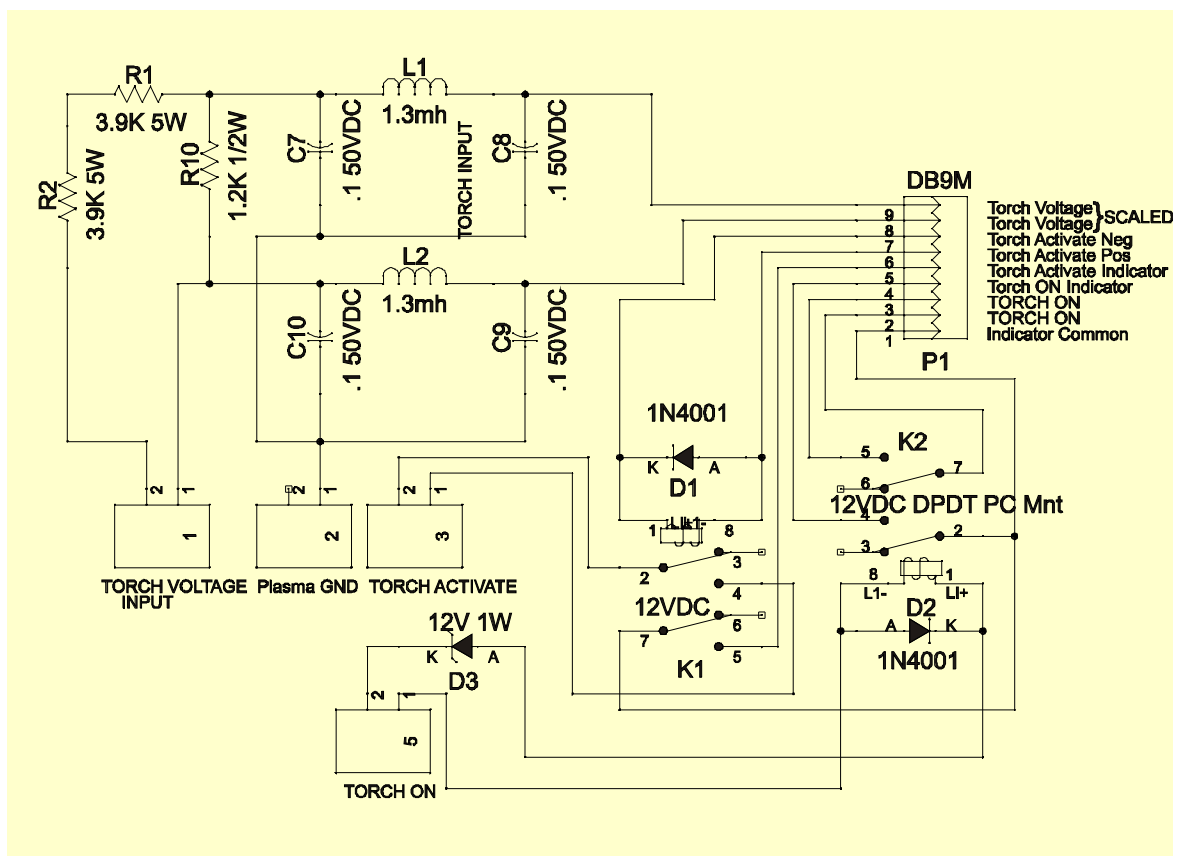
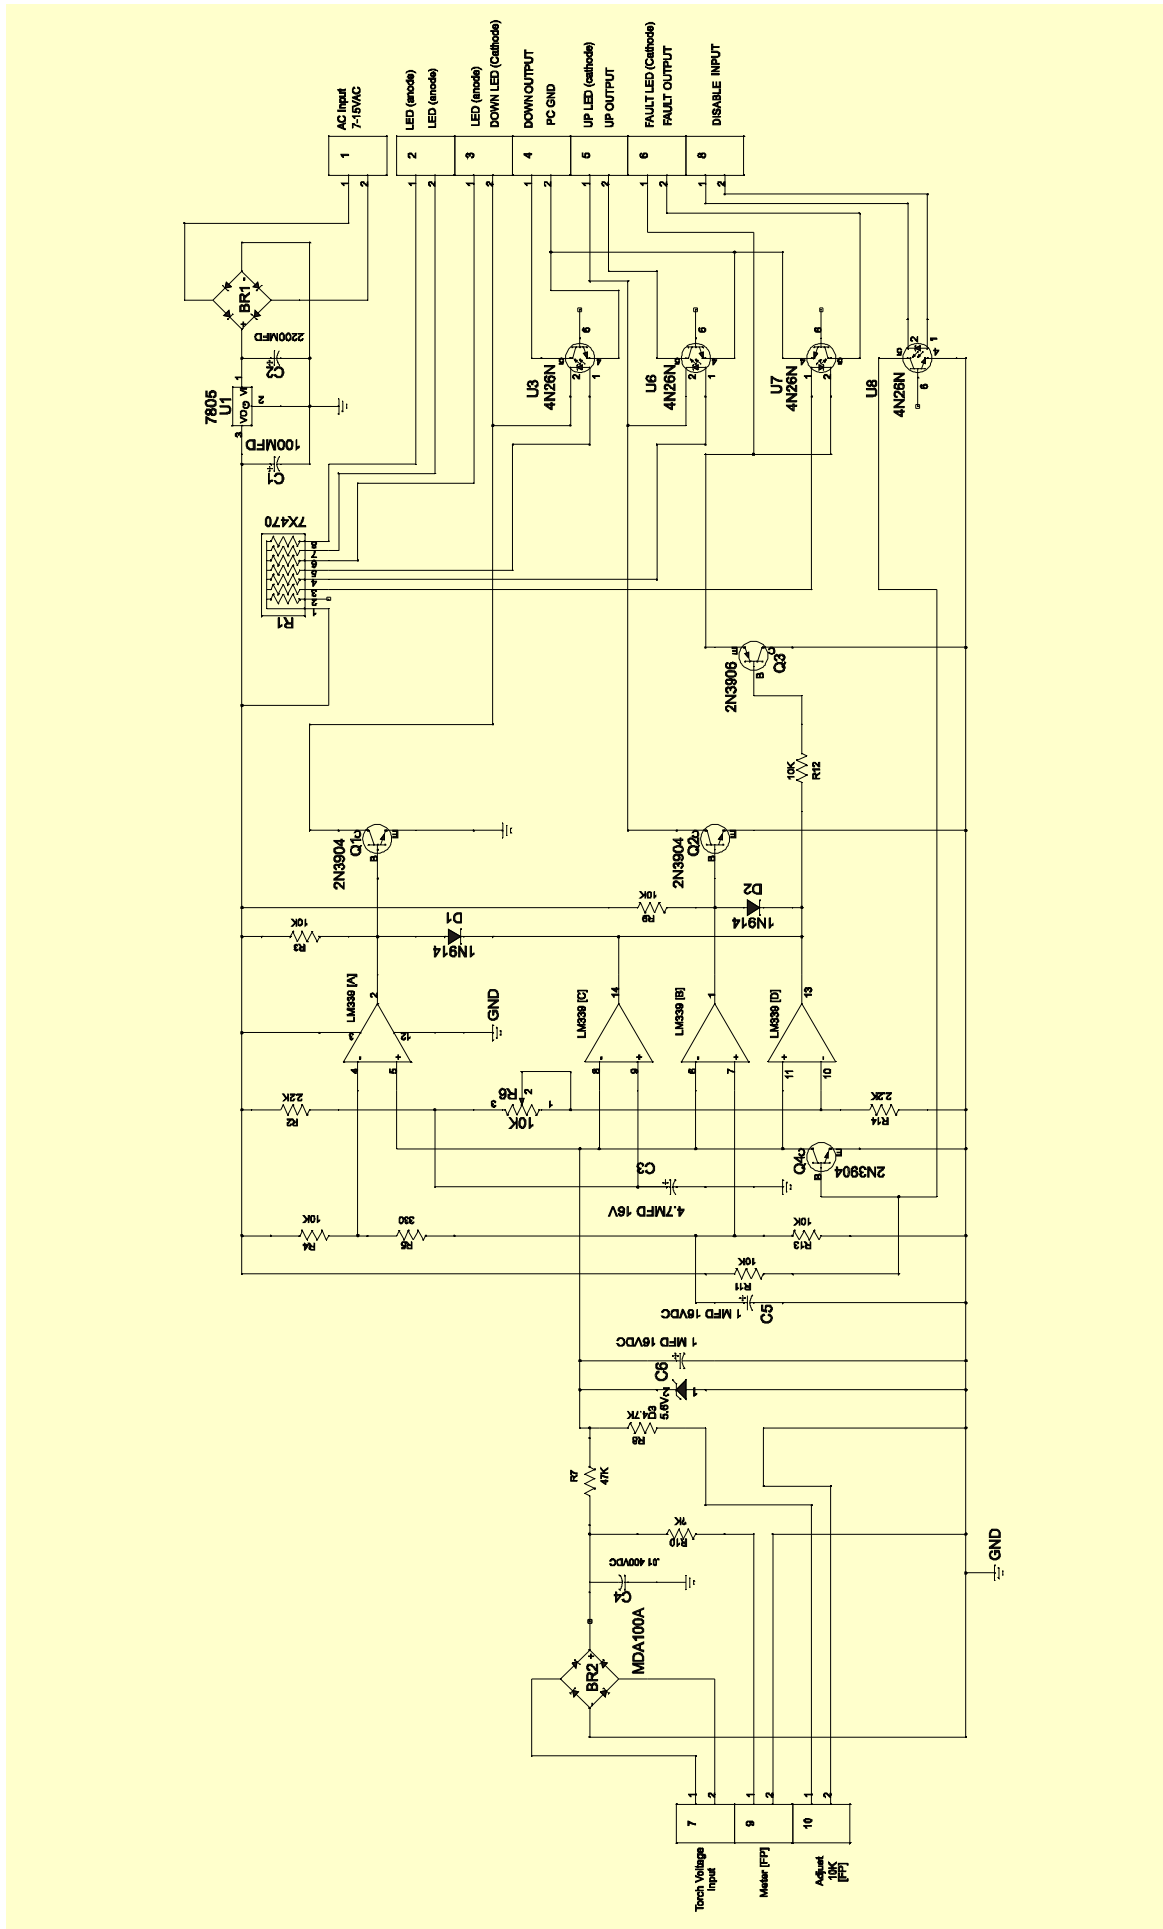

Figure 12.2 – Sample interface for Miller plasma cutter unit
Figure 12.3 – Interface from modified plasma cutter to Mach3 parallel port
2. The circuits are designed to give isolation between the THC and the computer parallel port(s). The internal plasma card (figure 12.2) located inside the plasma torch controller uses the plasma internal low voltage DC to operate relays to provide isolation of signals. The THC controller circuit (figure 12.3) has opto isolators to keep dangerous torch voltage and ground currents away from the computer.
3. The functional blocks on figure 12.2 are: (a) a potential divider and filter network for sensing the arc voltage; (b) a relay to simulate the operation of the torch trigger switch and (c) a relay to provide a contact closure when the arc is proved good by the plasma controller.
4. The functional blocks on figure 12.3 are: (d) Comparators to establish the highest and lowest acceptable arc voltages. These drive the up and down outputs which are Active Lo logic. The deadband between these voltages is adjustable. (e) Comparators to raise a fault condition if the arc voltage strays beyond limits wider than the control limits; (f) Optical isolation and front panel LED indicators for these signals. (g) A regulated DC supply fed from an isolated external transformer winding. (h) Connections for a panel mounted potentiometer (ideally 10 turn) to set the ideal torch height arc voltage and a panel mounted voltmeter to monitor the actual arc voltage.
- The THC Mach3 Controller Circuit (fig 12.3) and the THC Internal Plasma Card schematics and Printed Circuit Board artwork are copyrighted original works. You may **not** make copies beyond what is required to accomplish the goals stated above. You may **not** make additional printed circuit boards to **resell**, or **sell kits** or **finished units** based on the designs.